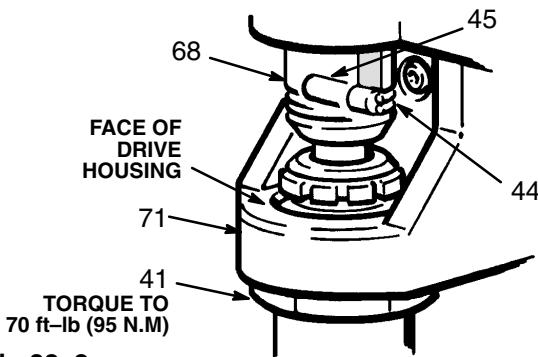

Fig 32-2
Be sure the retaining spring (44) is firmly in the groove of the connecting rod, *all the way around*, to prevent it from working loose due to vibration. See Fig 32-2.
1. Unscrew the intake valve (220) from the cylinder (219). Remove the gasket (214*), ball guide (213), stop pin (212*) and ball (203*) from the valve. Clean and inspect the parts for wear or damage, replacing parts as needed. **Always** use a new gasket (214*), provided in the repair kit. See Fig 32-2.
2. Unscrew and remove the packing nut (21 1) and plug (209).
5. Clamp the flats of the piston rod in a vise. Use a 7/8 in. wrench to loosen the retaining nut (207), and then to unscrew the piston valve (222) from the rod.
Reinstalling the Pump Refer to Fig 32-2.